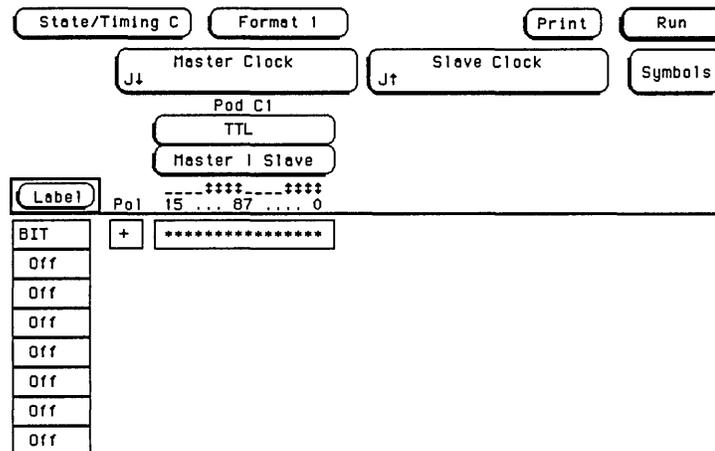

Figure 3-26. Format Screen
4. Set up the **Format** screen as in figure 3-26, assigning the falling clock transition as master and the rising transition as slave. Refer to steps a through c if unfamiliar with the menus.